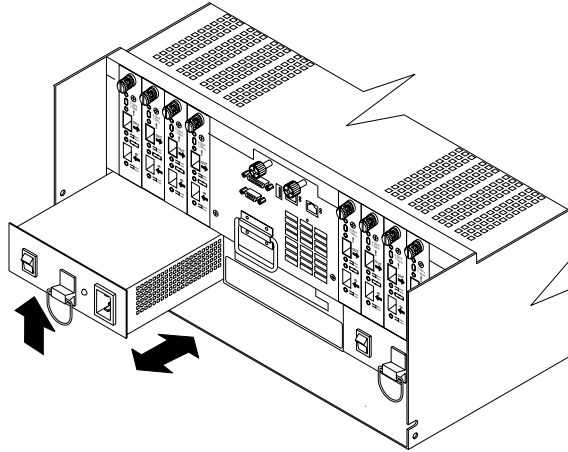

Figure 44. Removing and installing a power supply CRU
3. Using Figure 44 on page 48 as a guide, remove the failed power supply. Lift up and pull out on the pull handle to release the power supply; then, slide the unit out.
5. Install the new power supply, as shown in Figure 44. Using the pull handle, push the power supply into the slot until it locks into place.